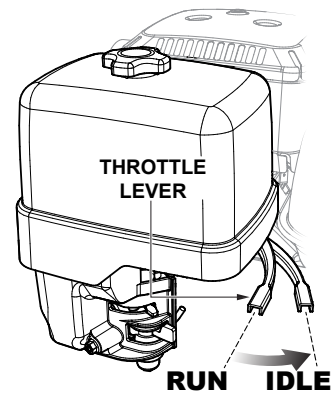

Figure 15. Throttle Lever (Idle Position)
4. Place the throttle lever (Figure 15) in the **IDLE** position.
1. Place the throttle lever (Figure 15) in the **IDLE** position, and listen for the engine speed to decrease.